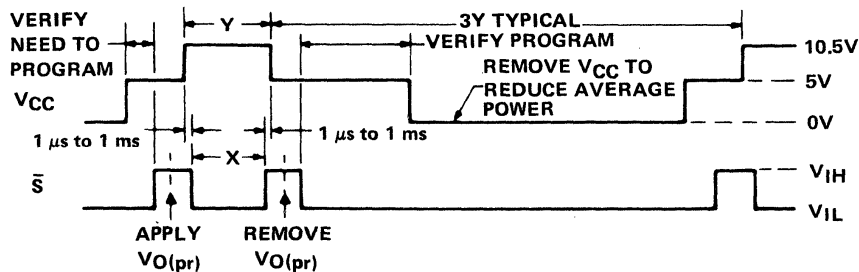

FIGURE 2 – VOLTAGE WAVEFORMS FOR PROGRAMMING
6. Apply a low-logic-level voltage to the chip-select input(s). This should occur between  $1\ \mu\text{s}$  and 1 ms after  $V_{CC}$  has reached its 10.5-V level. See programming sequence of Figure 2.